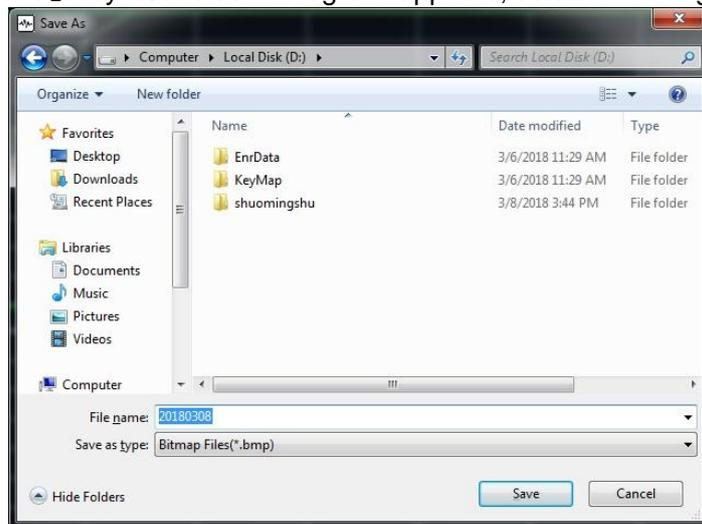

Fig. 3.20 Saving a screenshot
**Step 1.** Press the **【Save】** key. "Save as" dialog box appears, as shown in Fig. 3.20.